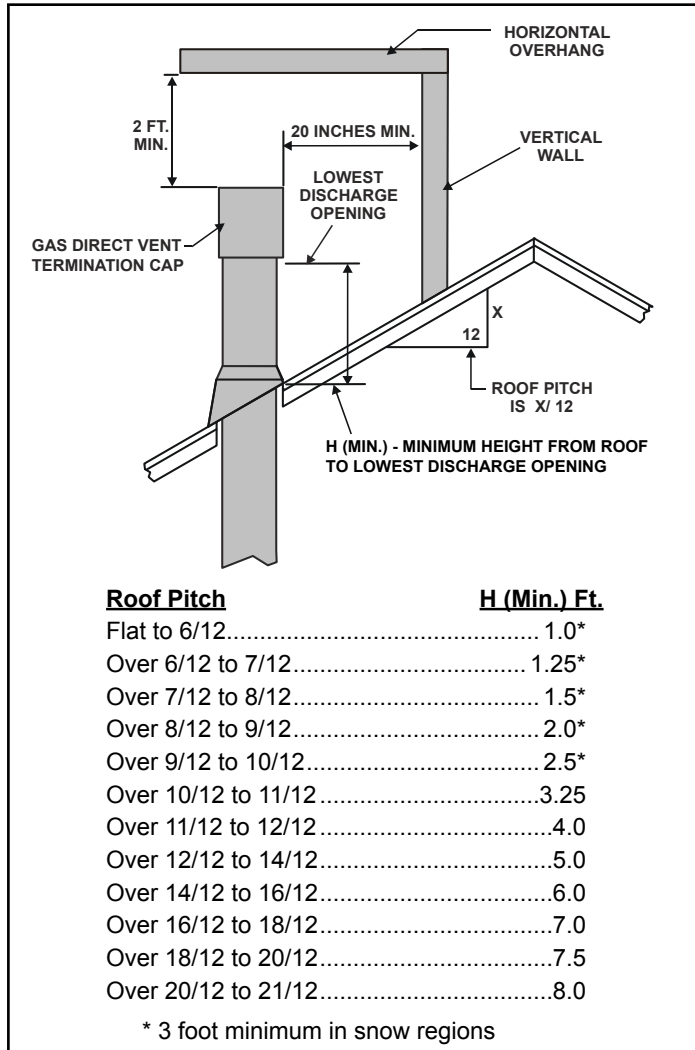

Figure 7.11 Minimum Height From Roof To Lowest Discharge Opening
- See minimum vent heights for various pitched roofs (Figure 7.11) to determine the length of pipe to extend through the roof.